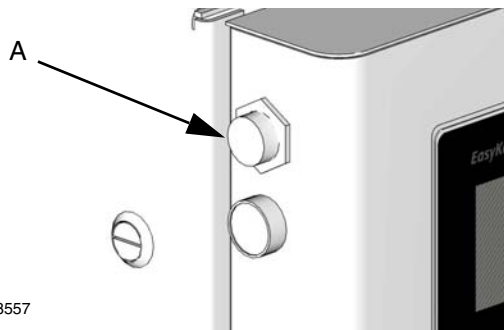

FIG. 28 EasyKey Web Connection
Patch cables are used to connect each unit to the local network and to the Web connection (A) on the EasyKey panel. See FIG. 28.